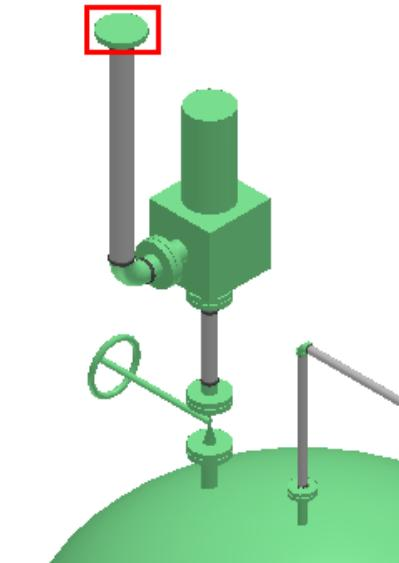

Figure 8.33: Flange Connected With the Vent Pipe
1. Place a flange at the top of the pipe that you routed above by using the **Insert Component** command. The flange after placement will resemble Figure 8.33 in the graphic view.